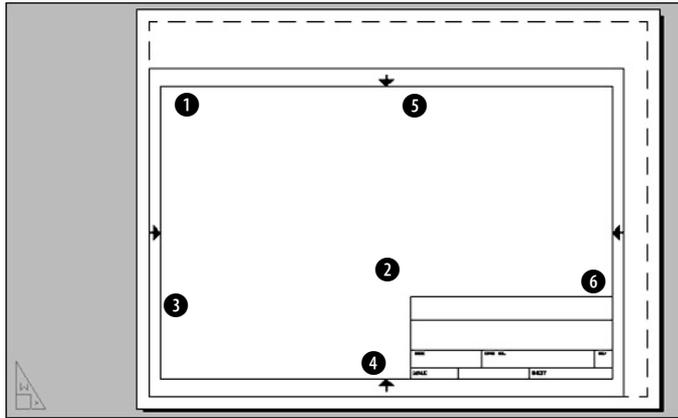

Figure 17-12: The title block inserted into paper space.
10. Choose Insert ⇄ Block to open the Insert dialog box. Click Browse. Choose `ab-17a-blk.dwg` from the CD-ROM and click Open. Uncheck any checked Specify On-Screen checkboxes. Click OK to insert the title block, as shown in Figure 17-12.
12. Choose View ⇄ Viewports ⇄ 1 Viewport. (Turn OSNAP off if it's on.) At the Specify corner of viewport or [ON/OFF/Fit/Shadeplot/Lock/Object/Polygonal/Restore/2/3/4] <Fit>: prompt, choose ① in Figure 17-12. (If you are using AutoCAD LT, your prompt will look slightly different.) At the Specify opposite corner: prompt, choose ②.
13. Click the right mouse button and then choose Repeat 1 Viewport. At the prompt, choose ③ in Figure 17-12. At the next prompt, choose ④ in Figure 17-12. Again repeat the command and choose ⑤ and ⑥ in Figure 17-12. You now see the drawing in the three viewports.